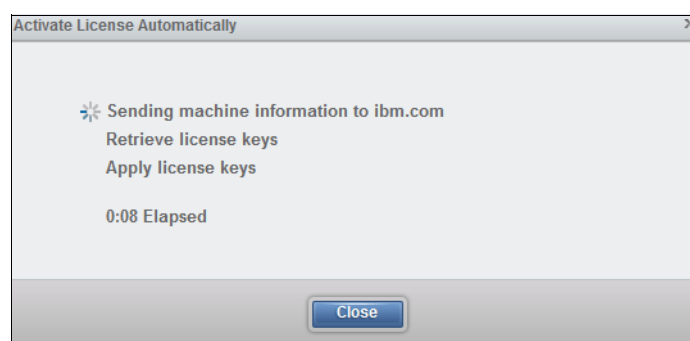

Figure 2-31 Setup wizard: Encryption license activation
11. The easiest way to activate the encryption license is to highlight each enclosure that you want to activate the license for and choose **Actions** → **Activate License Automatically** and enter the authorization code that came with the purchase agreement for encryption. This action retrieves and applies a license key from ibm.com as shown in Figure 2-31.